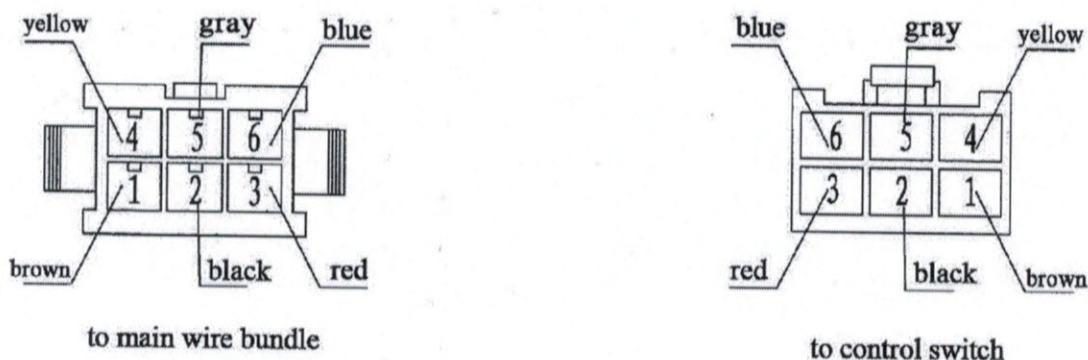

Fig. 18
4.5.6 Use four self-tapping screws to fix the control switch in a position for convenient operation and the arrangement shall make easy observation on the indicator on the case, so as to identify the working conditions (operation/stop) of the heater easily. The terminals on the leads from the control switch shall be inserted into the pin seat according to the sequence shown in Fig. 18 and connect with self-locking mechanism to connector X9 on the main wire bundle.